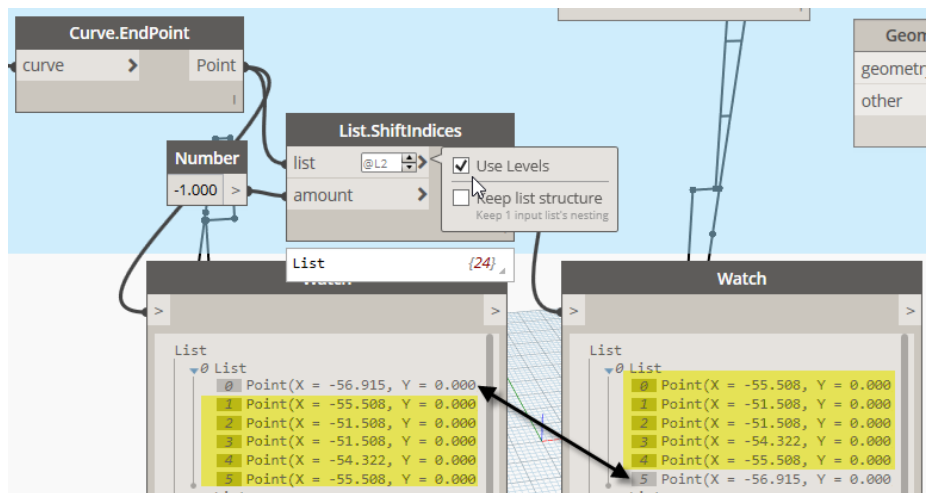

Figure 100
35. Click the small chevron next to the list port and check Use Levels. Make sure it is set to: **@L2** and run the graph (see Figure 100).